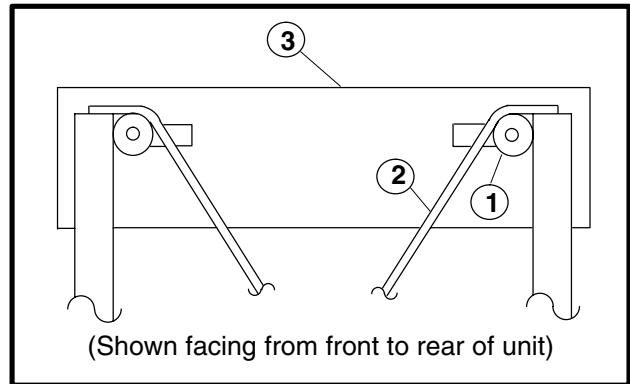

Figure 12
1. Adjust downstop bushings firmly against square posts of downstop brackets as shown in Figure 12.